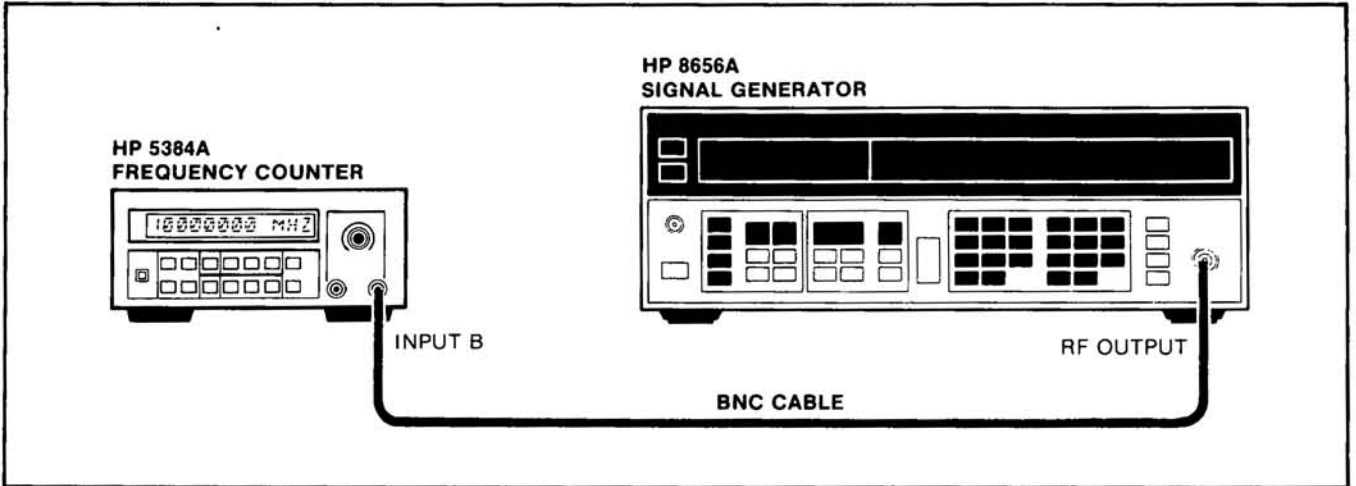

Figure 5-4. HP 5384A Channel B Input Amplifier Adjustment Setup
- a. Connect the HP 8656A Signal Generator as shown in Figure 5-4.